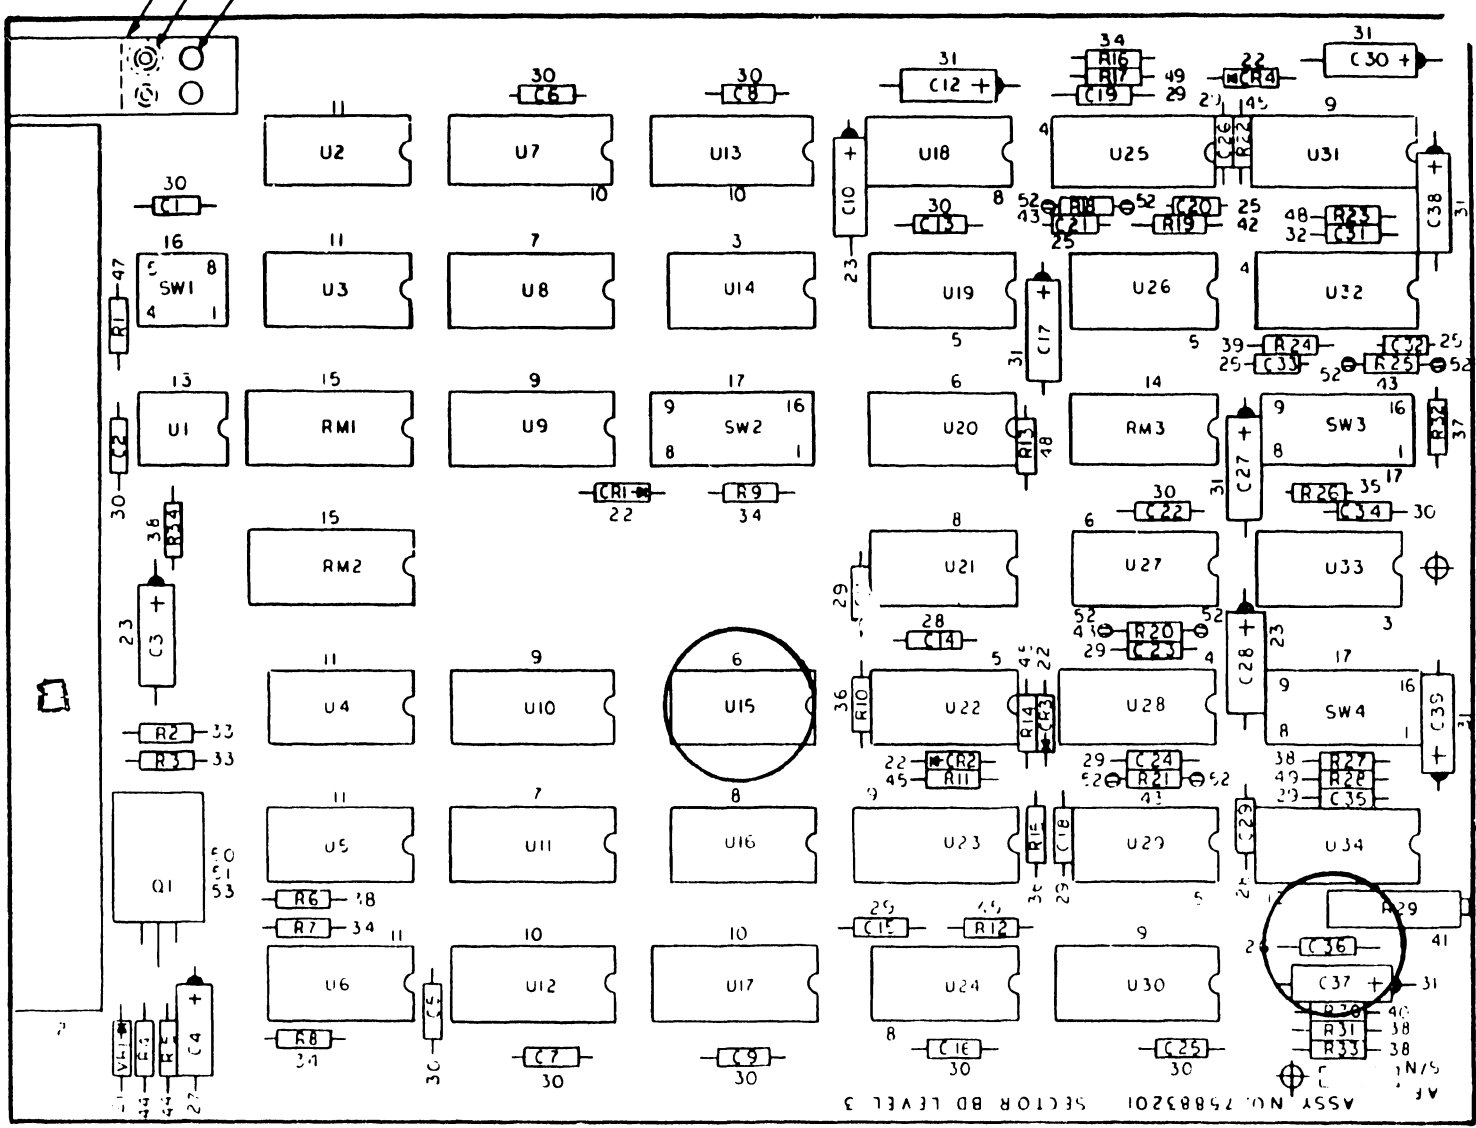

FIGURE 6-1 SECTOR BOARD UPDATE IDENTIFICATION
- 1) IC U15 should be removed (Ref. Figure 6-1).
It has been discovered that the Index to Data Burst alignment will change with temperature variations. To prevent this from occurring, a capacitor on the 726-5694 Sector board has been changed. C36 (Ref. Figure 6-1) should be changed from a 4700 PF Tantalum to a 4700 PF Mica (Wang #30G-1910).